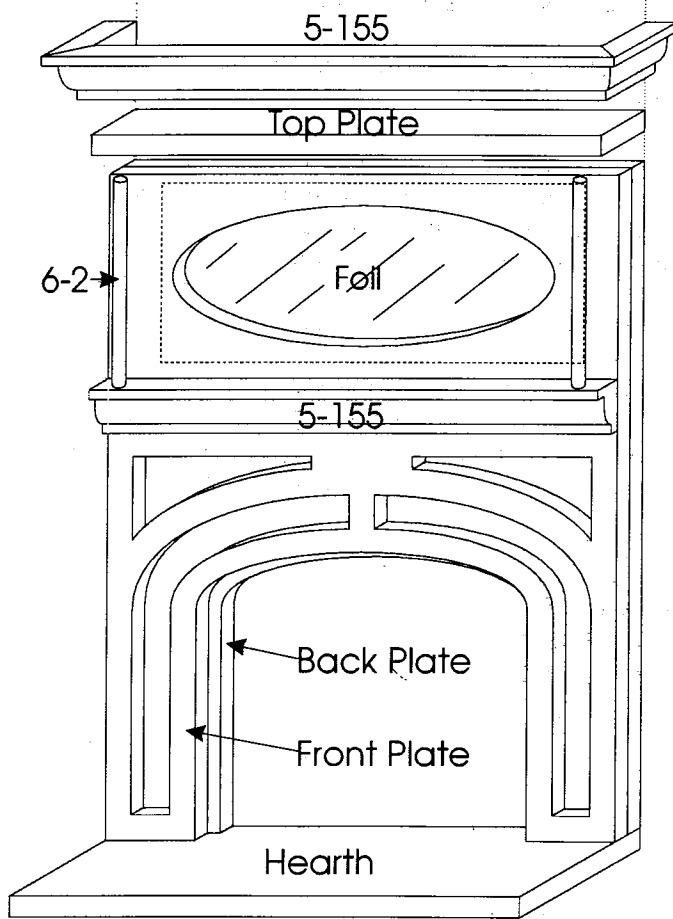

Figure 13
2. Assemble 1st Floor Fireplace as in Fig. 13.